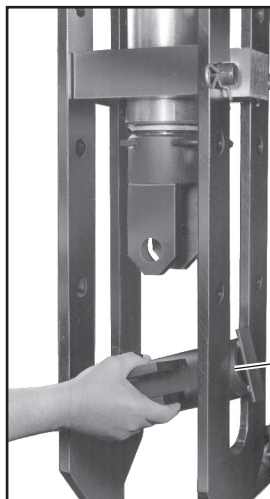
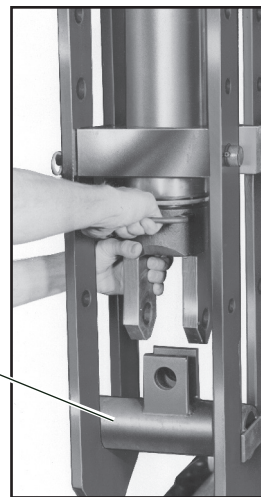

Figure 5
Figure 6
2. Rotate the yoke 90° from its normal position and place the ram positioner between the connecting bars as shown in Fig. 5. Mounting tabs of ram positioner should be up as shown in Fig. 6.